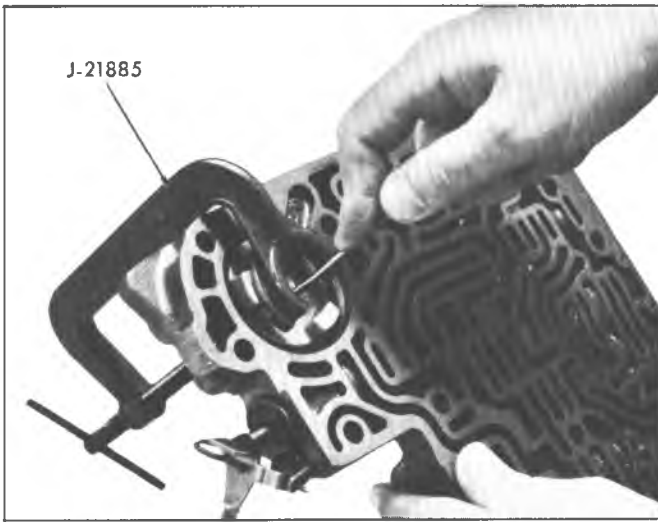

Fig. 52M--Removing Direct Clutch Accumulator Piston Retaining "E" Ring
8. Install Tool J-21885, on direct clutch accumulator piston and remove retaining "E" ring (fig. 52M).